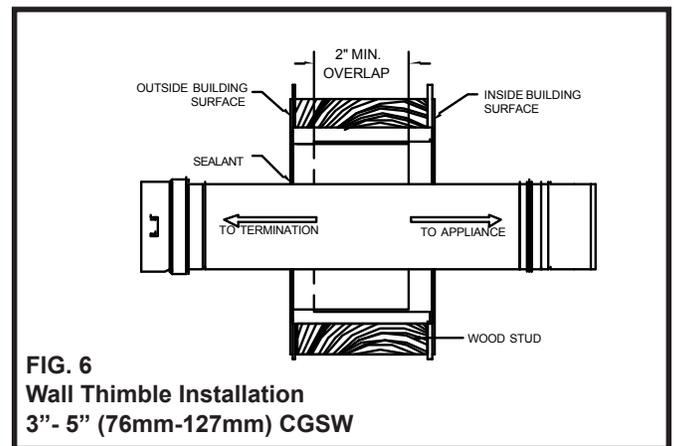

FIG. 6
- Once the Thimble is installed, Corr/Guard vent pipe can be inserted into the Thimble. For 3" - 5" diameter Corr/Guard insert the male end first. (See **FIG. 6, 7 & 8**).